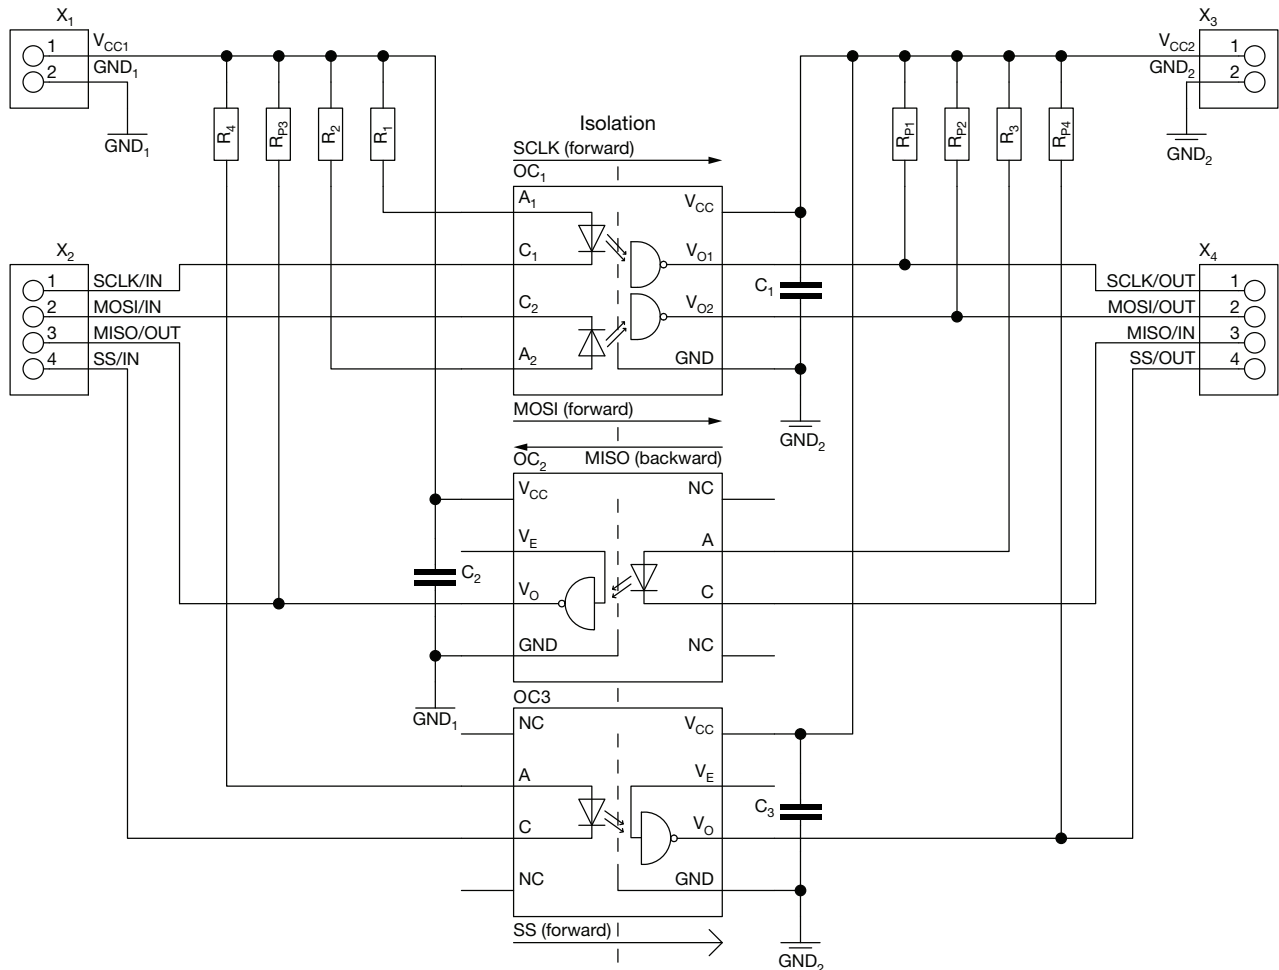

Fig. 4 - Example Schematic for Optical SPI Isolator
For the logic “H” stage, pull-up resistors ( $R_P$ , as shown in Fig. 4) are required and can be calculated with Equation 1 below:
Fig. 4 depicts an exemplary optical SPI isolator circuit. Vishay’s 10 MBd high speed optocouplers are used: a single channel VOH260A (1) for OC2 (MISO (forward)) and OC3 (SS (forward)), and a dual-channel VOH263A (2) for OC1 (SCLK / MOSI (forward)). Both are available in DIP-8 and SOIC-8 packages, named as VOIH060A (3) and VOIH063A (4).